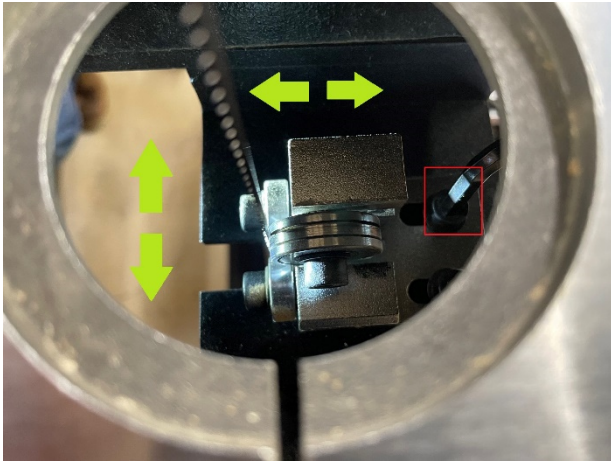

Figure 22
- This adjustment can be made by observing the position of the blade guide through the opening of the table insert. (Fig 22)